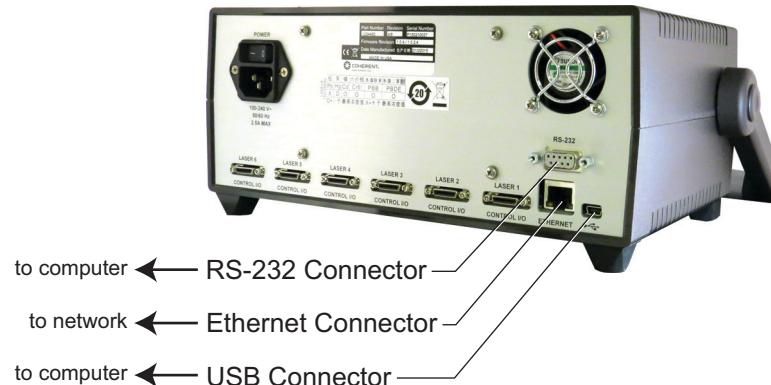

Figure 3-27. OBIS Scientific Remote: Connect Cables
7. Connect optional USB/RS-232/Ethernet cables (for remote control), as shown in Figure 3-27.